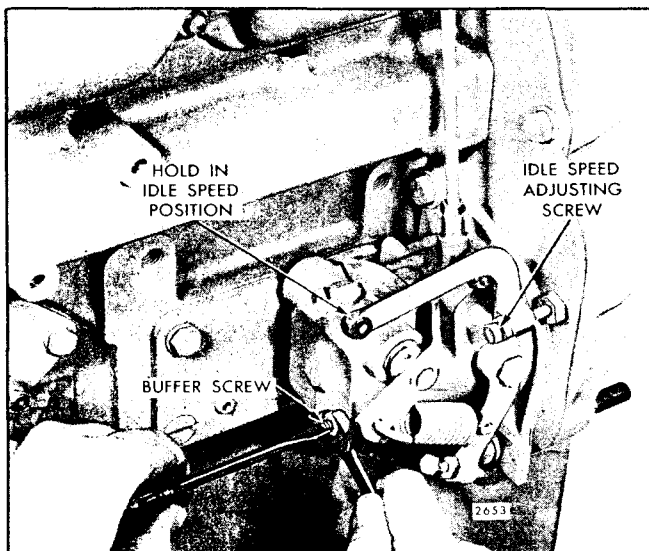

Fig. 4 - Adjusting Buffer Screw
1. Loosen the buffer screw lock nut and, with the engine operating at idle speed, turn the buffer screw (Fig. 4) in until engine roll is eliminated.